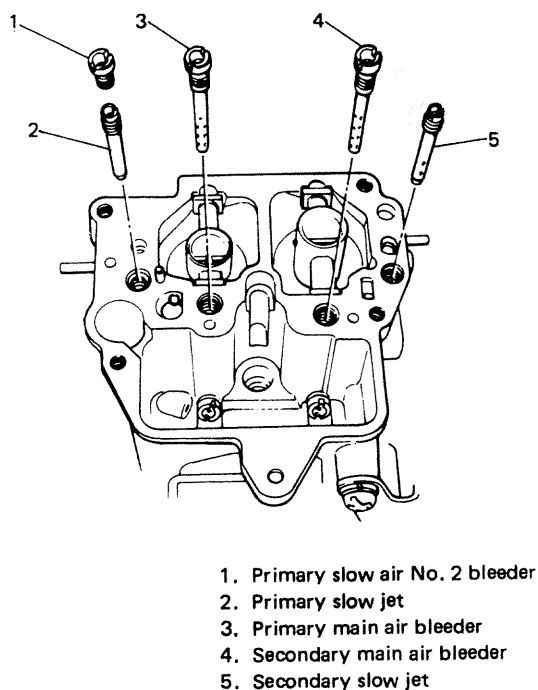

Fig. 4-1-34 Installing jets and air bleeders
- 8) Install jets and air bleeders to float chamber. Refer to Fig. 4-1-34 for their installation.